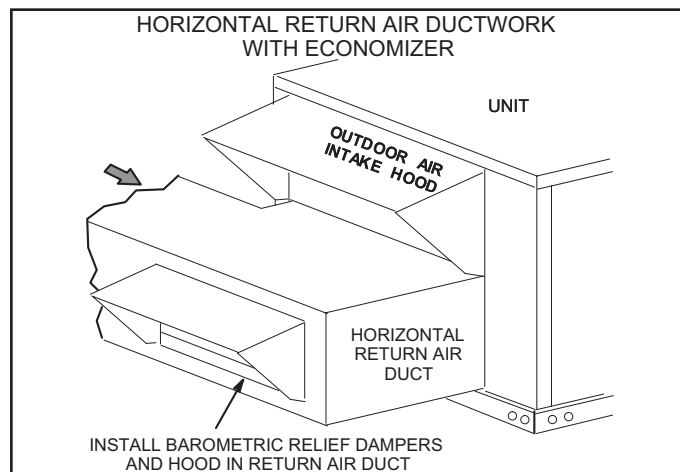

FIGURE 5
- 5 - Install return air duct beneath outdoor air intake. See FIGURE 5. Install barometric relief damper in lower hood and install in ductwork as shown in FIGURE 5.